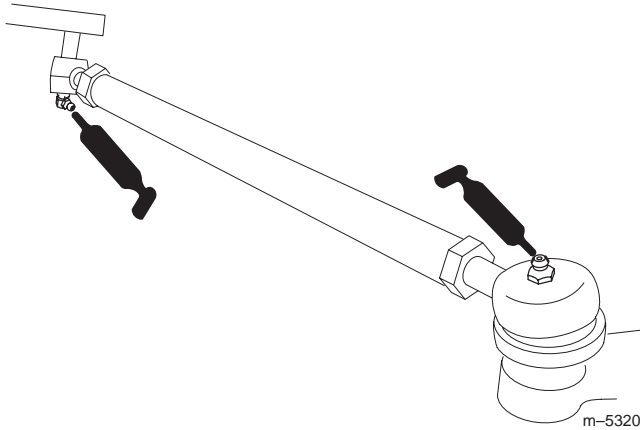
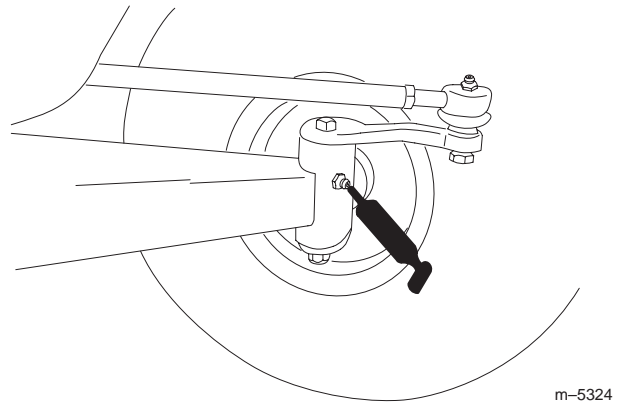

Figure 21
Figure 22
The grease fitting locations are at the tie rod ends (4) (Fig. 21) and the king pins (2) (Fig. 22).